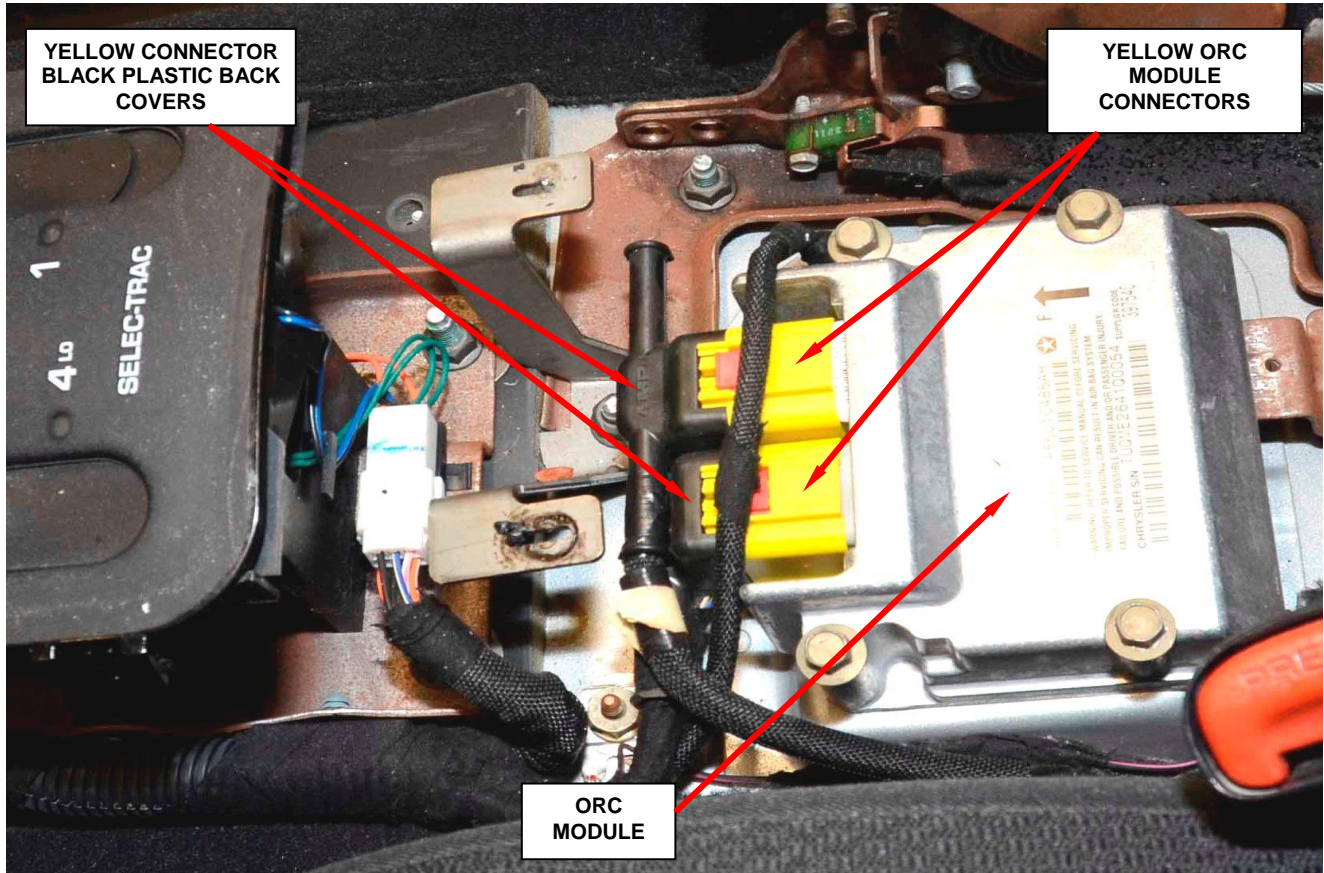

Figure 16 – Yellow ORC Module Connectors
3. Disconnect both yellow Occupant Restraint Control (ORC) module connectors (Figure 16).
4. Remove and discard both yellow connector black plastic back covers from the yellow ORC module connectors (Figure 16 and 17).